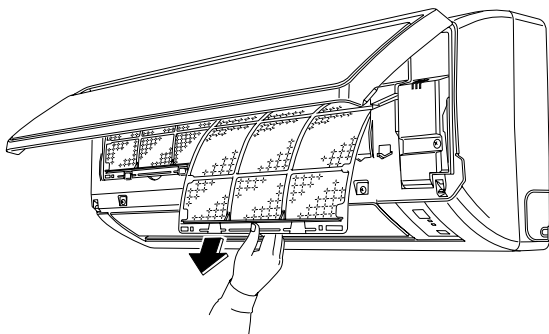

Fig. 3
- (3) Remove air filter by pulling forward. (Fig.3)